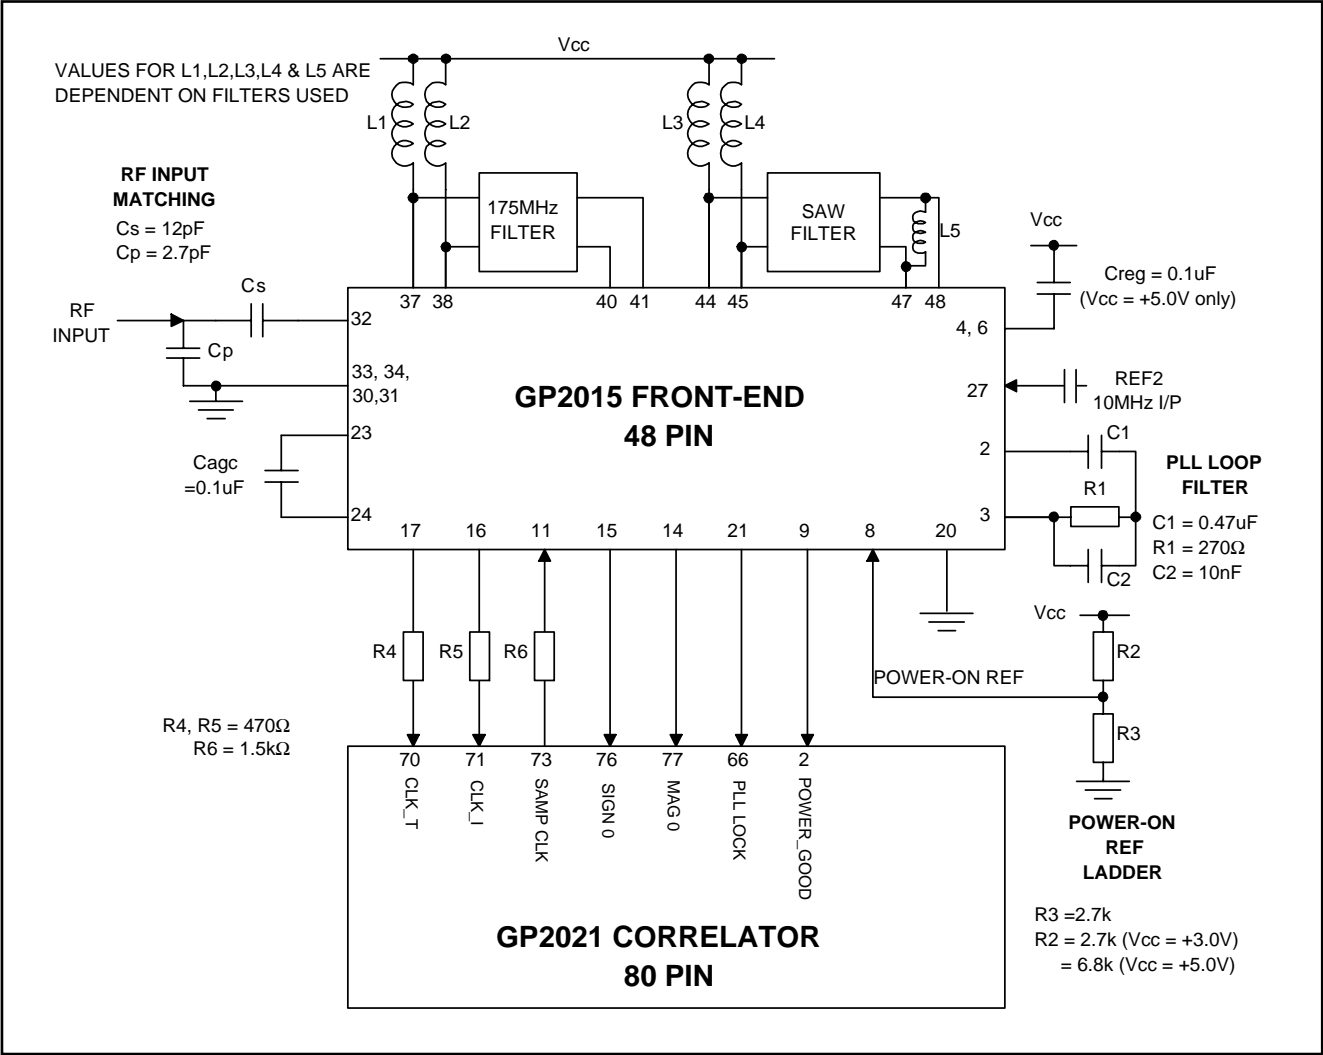

Figure 4 - GP2015 typical application
A typical application circuit is shown in figure 4 with the GP2015 front-end interfaced to the GP2021 12-channel correlator integrated circuit. The RF input has an unmatched input impedance (see page 4). The RF input matching components C_s and C_p should be mounted as close to the RF input as possible: also the V_{ee} (RF) tracks must be kept as short as possible. A SAW filter may be used as a 175.42MHz filter, but this can be replaced by a simpler coupled-tuned LC filter if there is no critical out-of-band jamming immunity requirement. The DC bias to mixer 1 is provided via inductors L1 and L2, which may form part of the 175.42MHz filter. The output of mixer 2 requires an external dc bias, achieved with inductors L3 and L4, which also serve to tune out the input capacitance of the 35.42MHz SAW filter. The output of the SAW filter is tuned with inductor L5. Capacitor (Cagc) determines the AGC time-constant. The PLL loop filter components are selected to give a PLL loop bandwidth of approximately 10kHz. The IF Output is normally used for test-purposes only, but is available to the user if required. Typically a low noise preamplifier (gain $> +15dB$) is